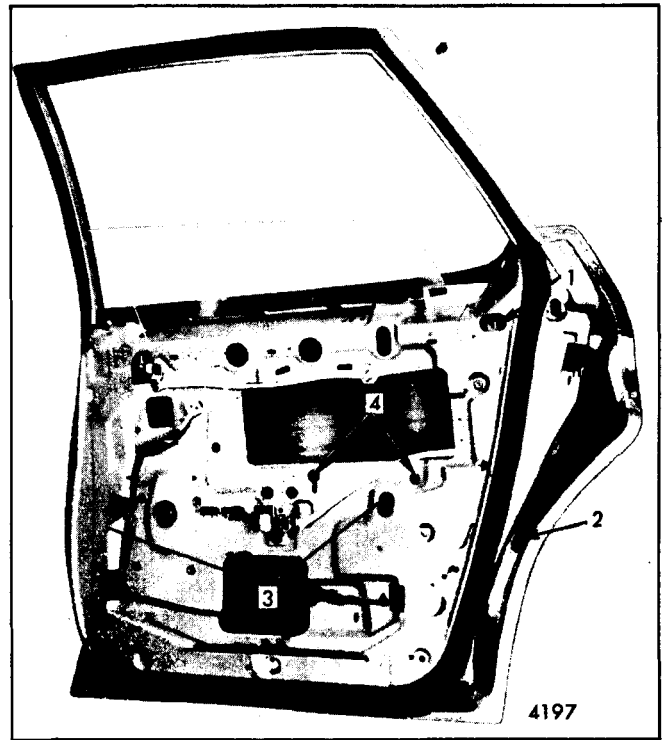

Fig. 6-119-Rear Door Window Removal and Adjustments - "B" Closed Styles
2. Remove rear glass run channel upper and lower attaching bolts ("1" and "2", Figure 6-119) and remove run channel from door.
3. Partially lower rear door window, remove lower sash channel cam to glass attaching stud nuts ("3", Figure 6-119). Press lower sash channel cam inboard to disengage from attaching studs and lower window regulator to full-down position.
Adjustments have been provided to relieve a binding door glass due to misalignment of the glass run channel ("1" and "2", Figure 6-119). In addition, the door window inner panel cam is adjustable which can correct a rotated (cocked) front door window ("4", Figure 6-119).